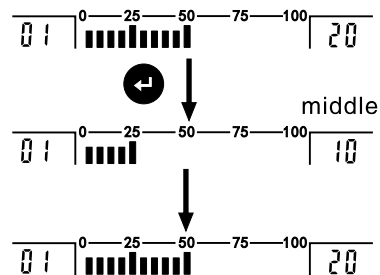

Figure 3-1-3 File upload process
- The sending process is dynamically displayed in the two sides of reading area and status area. (Figure 3-1-3)